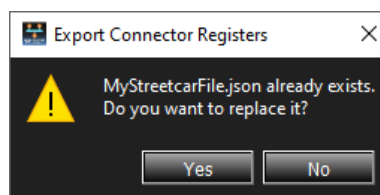

Figure 4.48: Overwrite File Confirmation
- c. To overwrite an existing file, highlight it and click **Save**. A confirmation prompt appears (Figure 4.48). If you are sure you wish to overwrite the file, click **Yes**.